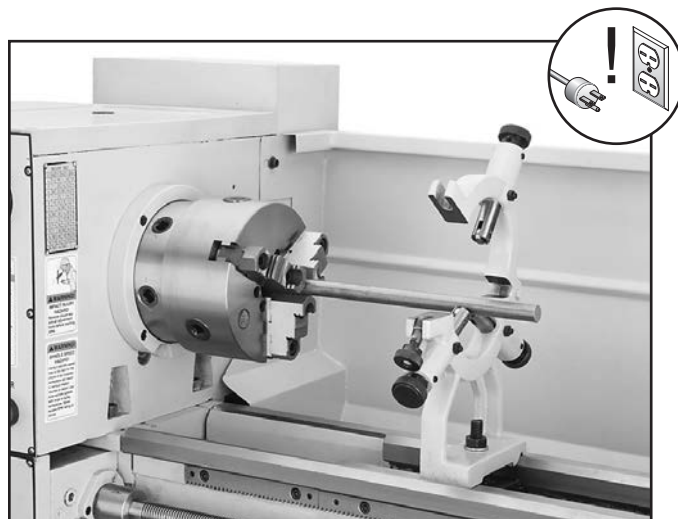

Figure 50. Workpiece mounted in the steady rest.
4. Loosen clamp knob that secures the two halves of steady rest and open top portion, as shown in **Figure 50**.